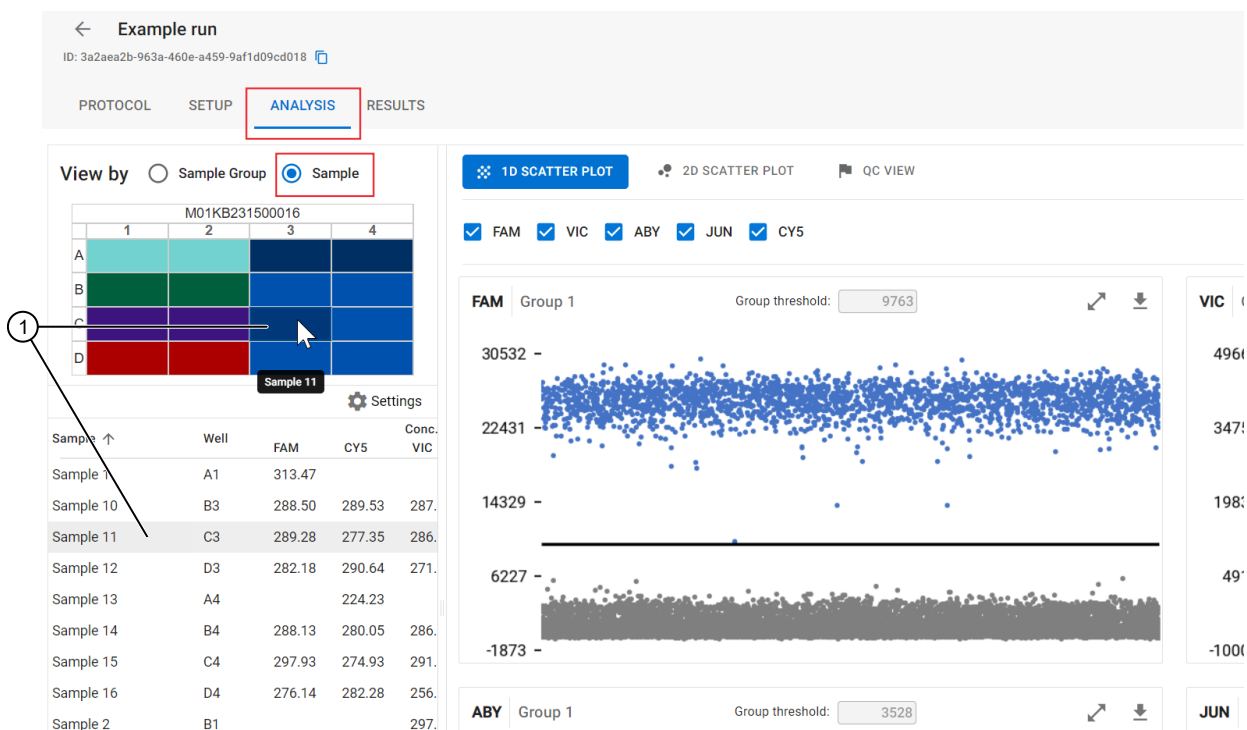

Figure 26
- Navigate between samples in a plate (see Figure 26).